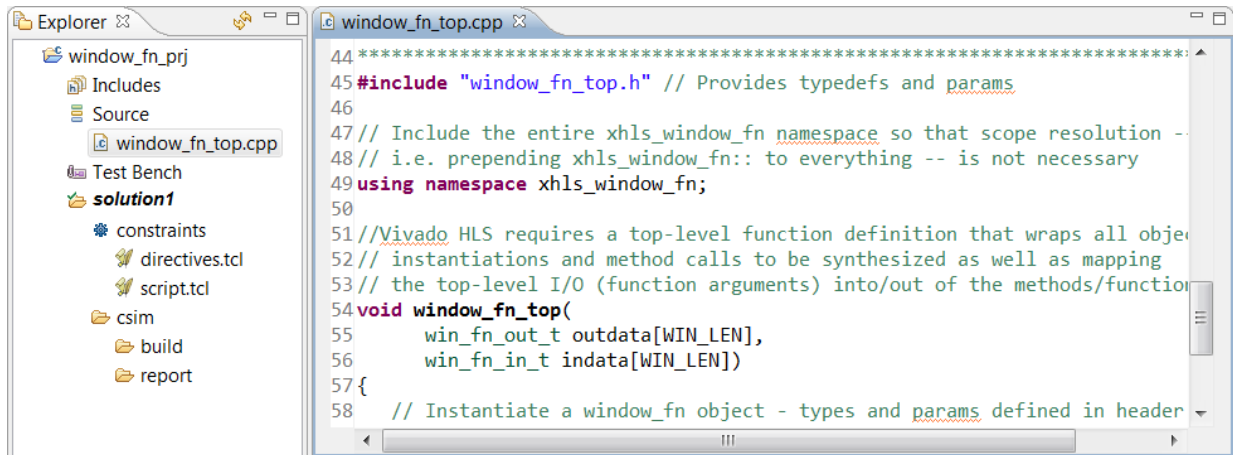

Figure 5-10: C Code for Arbitrary Precision Lab 2
4. Open the **Source** folder in the Explorer pane and double-click **window_fn_top.cpp** to open the code as shown in Figure 5-10.